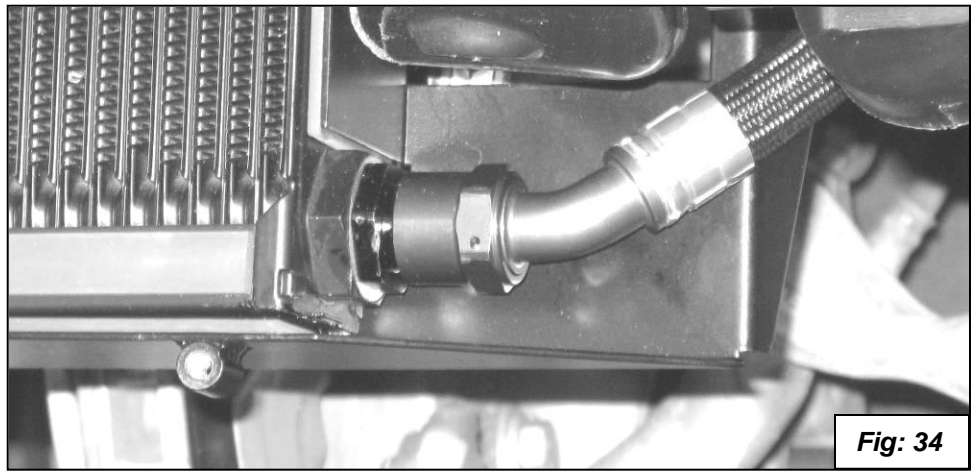

Fig: 34
35. Connect the **non-swivel** end of the Lower Oil Line to the lower fitting on the Oil Cooler after routing the Line under the Upper Line as shown in **figure 34**. **Always start this type of fitting by hand for several turns before using a wrench to avoid cross-threading the aluminum threads.**